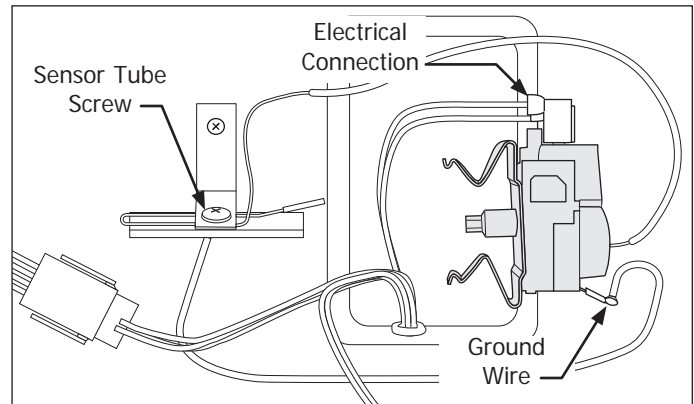

Figure 5-17. Thermostat Control Removal
2. Extract the screw securing the sensor tube to the back wall of the cabinet interior. (See Figure 5-17)